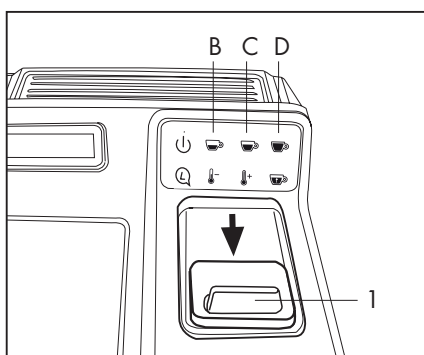

Fig. 11
- Close the door (1) and press one of the dispensing buttons (B) (C) (D) as preferred. (Fig. 11)